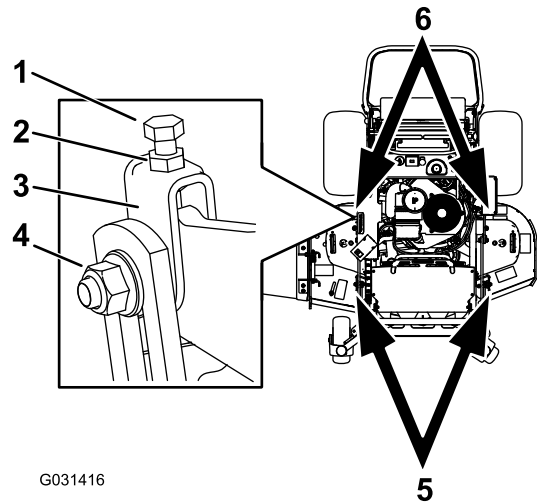

Figure 83
1. Loosen the jam nut and side bolt in the yokes that you want to adjust (Figure 83).
2. Rotate the top bolt of the yokes to adjust the height of the mower deck (Figure 83).
5. If the measurement is not correct, locate the front 2 yokes on the machine (Figure 83).